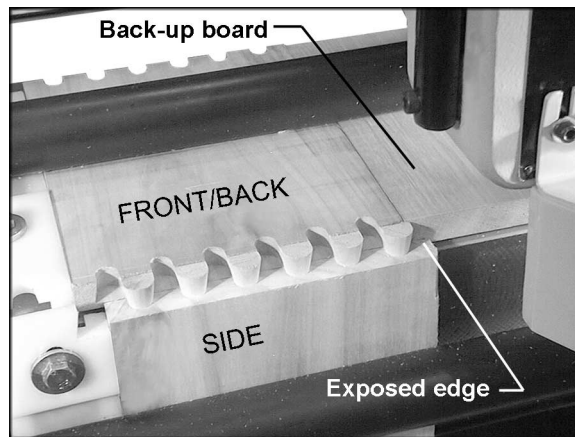

Figure 29
As noted previously, when the SIDE and FRONT/BACK pieces are inserted into the machine, they are offset a bit so they'll match correctly when assembled. In other words, the SIDE will rest slightly to the right of the FRONT/BACK in the machine. This leaves the right edge of the SIDE exposed without the "chipbreaker" effect that the FRONT/BACK provides for the rest of the SIDE (see Figure 29). This may result in an unsatisfactory cut at the edge of the SIDE.
This problem is resolved simply by taking a 2-inch-plus wide "back-up" board, of the same thickness as your workpiece, and clamping it horizontally next to the FRONT/BACK piece so that it backs up the exposed edge of the SIDE, as shown in Figure 29. You can use this piece over and over again.
3. Plywood has a tendency to chip out on exposed edges. A back-up board should be used as needed (see Figure 29).